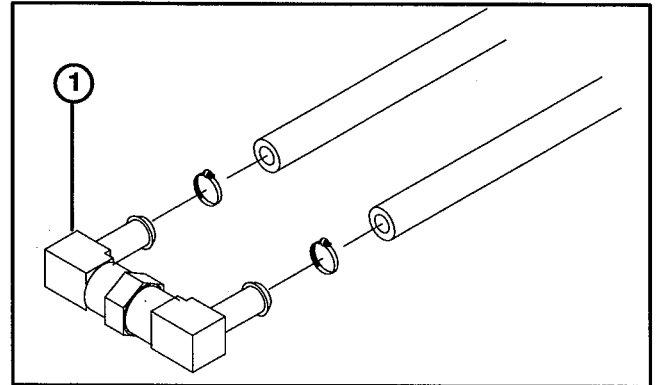

Figure 17
65. Install elbow fitting assembly and hose to the fuel filter with clamp. Secure fuel tank hose to elbow fitting assembly (Fig. 17).